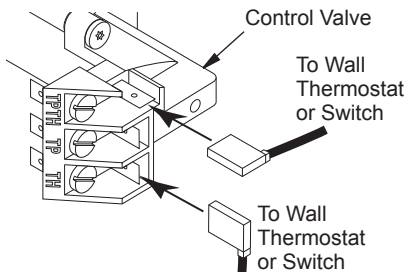

Figure 30 - Connecting Wire Terminals
2. Connect one terminal of 25 ft. wire to the "TH" terminal on the control valve. Connect the other terminal to the "THTP" terminal on the control valve. See Figure 30, page 20.
2. Connect one terminal of 25 ft. wire to the "TH" terminal on the control valve. Connect the other terminal to the "THTP" terminal on the control valve. See Figure 30.